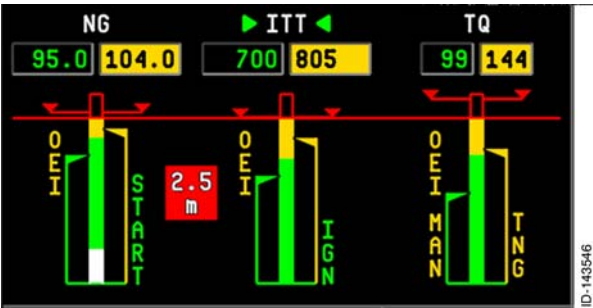

Figure 6-7
- Engine Compressor Speed, Inlet Turbine Temperature, and Torque Window** - The color zones for ITT, torque, and NG change depending on the engine rating in use. When the digital display goes into the amber **caution range**, the digits are displayed in **amber inverse video**. When the digits are in the red **warning range**, the numbers are displayed in **red inverse video**. The three power indicators are displayed, as shown in Figure 6-7.